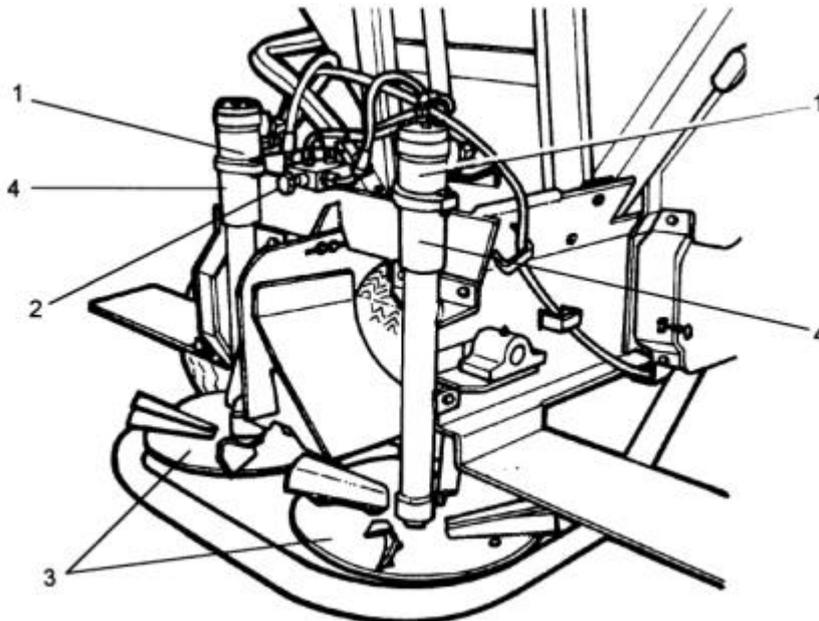

Figure 8
28. When the spinners are engaged, hydraulic oil flows to the motors (1) via a control valve (2). Power from motors (1) is transferred to the spinners (3) via couplers (4) (Fig 8).